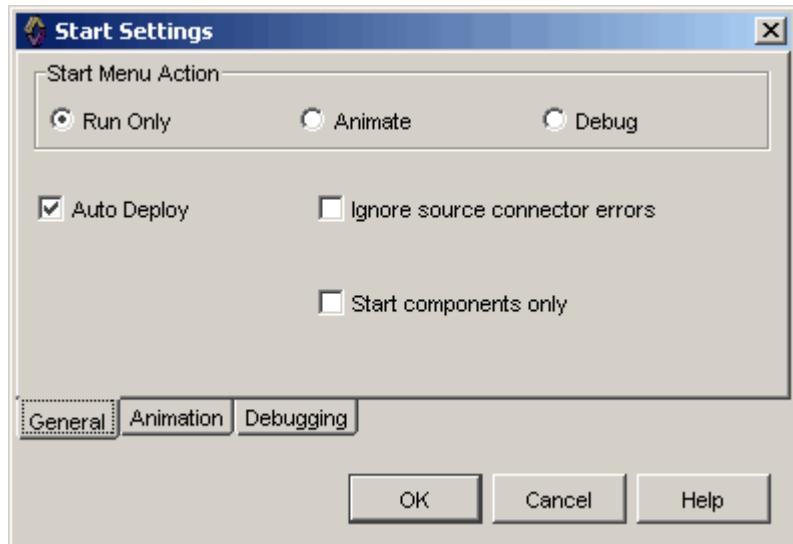

Figure 22-4 Start Settings Dialog Box
2. In the Start Settings dialog box, make sure the **Auto Deploy** option is selected, as shown in Figure 22-4.